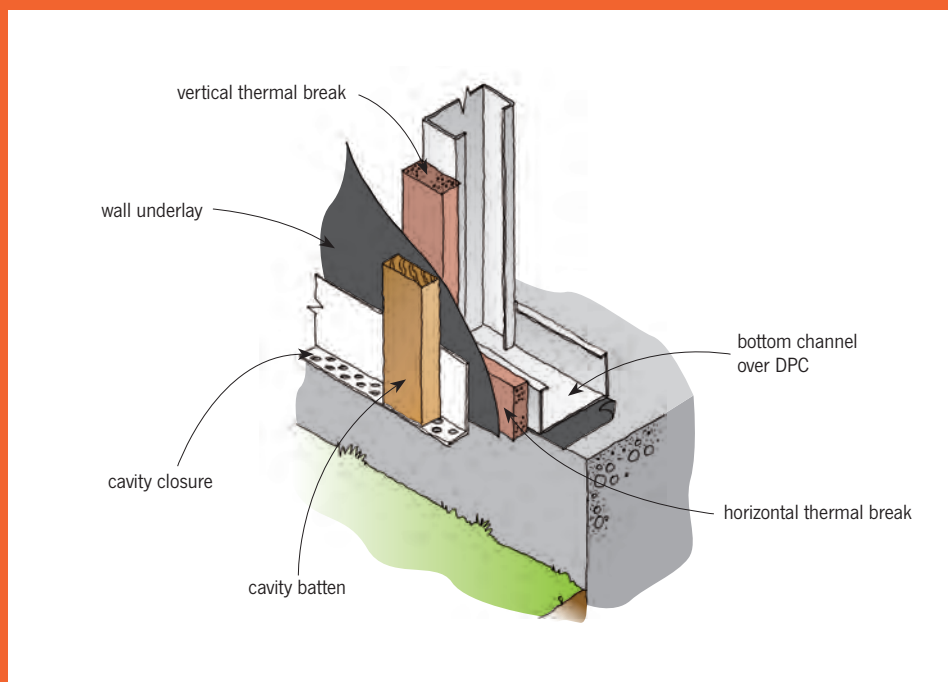

Figure 2. Installation of wall underlay over thermal break plus cavity battens (wall cladding, slab reinforcing and insulation not shown).
- The thermal break material can be fixed directly to the steel, then the wall underlay installed, with cavity battens forming the cavity (Figure 2).